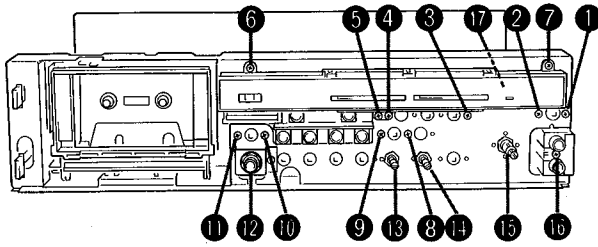

Fig. 4
2. Remove the screw 17 in Fig. 4 (rear of plate assembly) and then remove dolby NR indicator P.C. board.
3. Remove the screws 3 and 4 in Fig. 4 and then remove the dolby NR switch P.C. board.
5. Remove the screws 5 to 7 in Fig. 4 and then remove the plate assembly.
4. Remove the screws 8 to 11 in Fig. 4 and then remove the logic control P.C. board.
4. Remove the hexagonal nuts 12 to 15 and the screw 16 in Fig. 4.